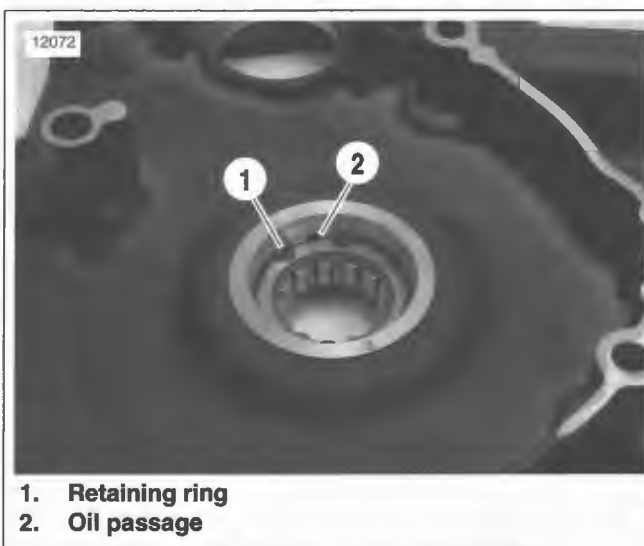

Figure 6-9. Retaining Ring Orientation
11. See Figure 6-9. Retaining ring (1) must be oriented as shown to prevent blocking of oil passage (2). Install retaining ring to lock position of bearing in bore. Verify that the ring is fully seated in the groove and is in proper orientation.